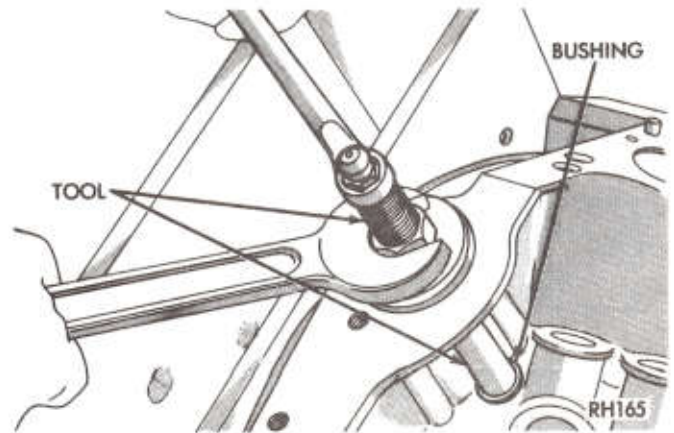

Fig. 37—Burnishing Distributor Drive Shaft Bushing
(3) As the burnisher is pulled through the bushing by tightening the puller nut, the bushing is expanded tight in block and burnished to correct size, (Fig. 37).